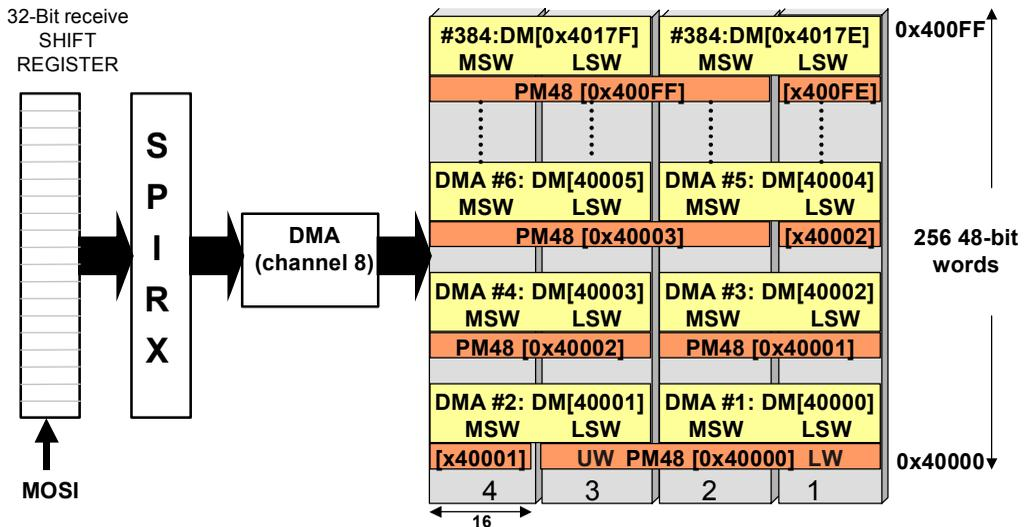

Figure 11-8. SPI Data Packing
The host initiates the booting operation by activating `SPICLK` and asserting the `SPID $\bar{S}$`  signal to the active low state. The 256-word, boot-strapped instruction loader kernel is loaded 32 bits at a time, via the 32-bit SPI receive shift register (`RXSR`). To properly upload 256 instructions (48-bit words), the SPI DMA initially loads a DMA count of `0x180` (384) 32-bit words which is equivalent to `0x100` (256) 48-bit words. The relationship between the 32-bit words received into the `SPIRX` register and the instructions that need to be placed in internal memory is described in the Figure 11-8.
The boot loader kernel supplied with the tools loads a combination of instructions with DMA into scratch locations and then writes the instructions to internal memory using the core via the PX register. The 256-word, boot-strapped instruction loader kernel is loaded 32-bits at a time, via the 32-bit SPI receive shift register, using a normal-word addressing scheme with two-column memory addresses. Figure 11-8 shows how SPI data is packed in internal memory.